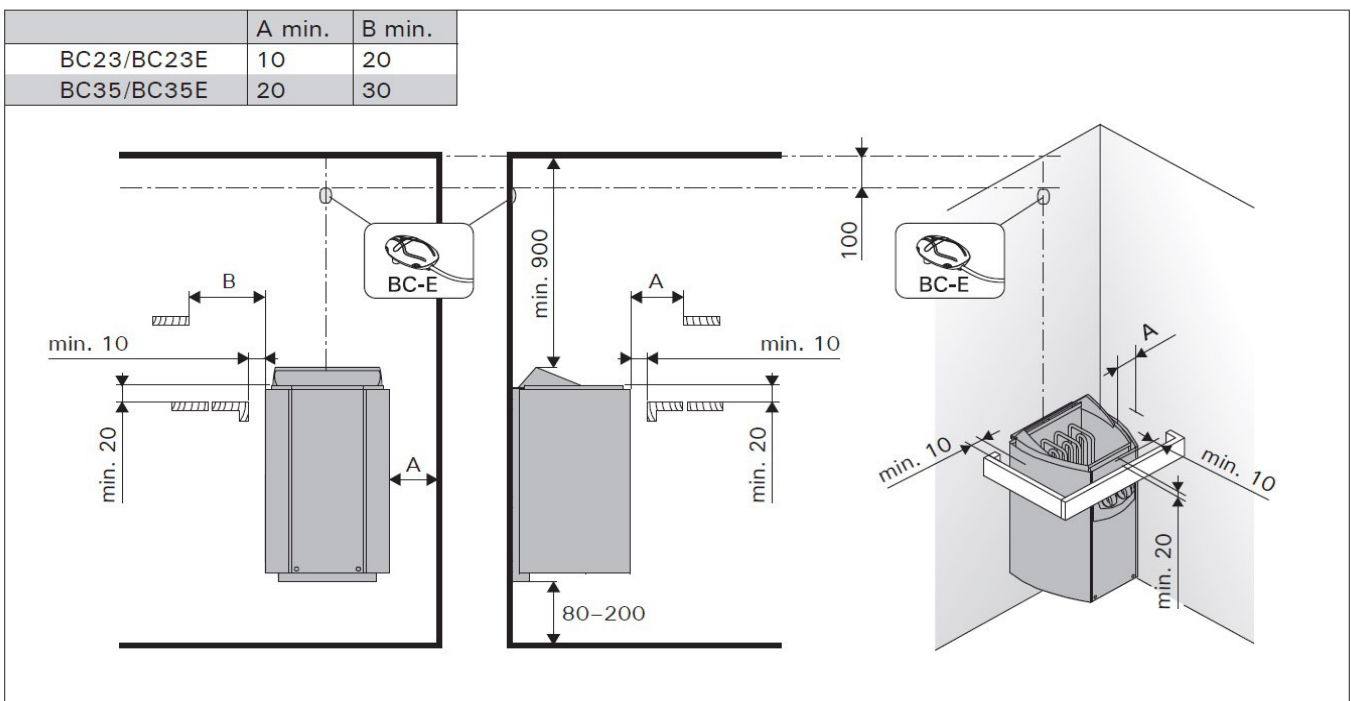

Figure 6. Safety distances (all dimensions in millimeters)
- The location of the heater fulfils the minimum requirements concerning safety distances given in fig. 6 and table 2.
The control unit includes detailed instructions for fastening the unit on the wall. Install the temperature sensor on the wall of the sauna room above the heater. It should be installed on the lateral centre line of the heater, 100 mm downwards from the ceiling. Figure 6.